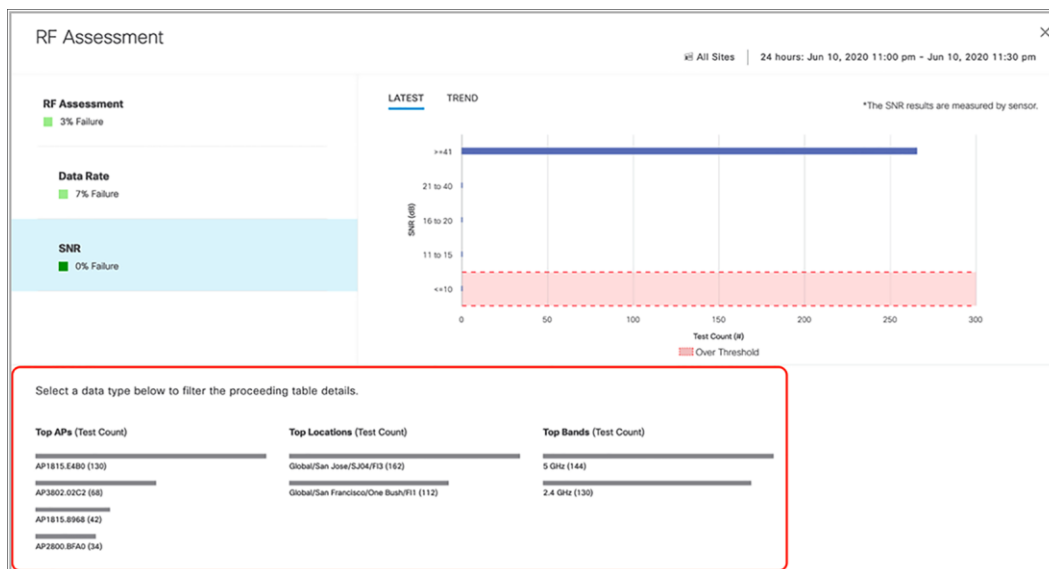

Figure 94.
- Click the SNR heatmap test result to see a cognitive navigation and drill-down view (Figure 94).
- From this view, you can easily determine the location, AP, or band in which the failures are occurring by clicking any of the top N filters (Figure 94).